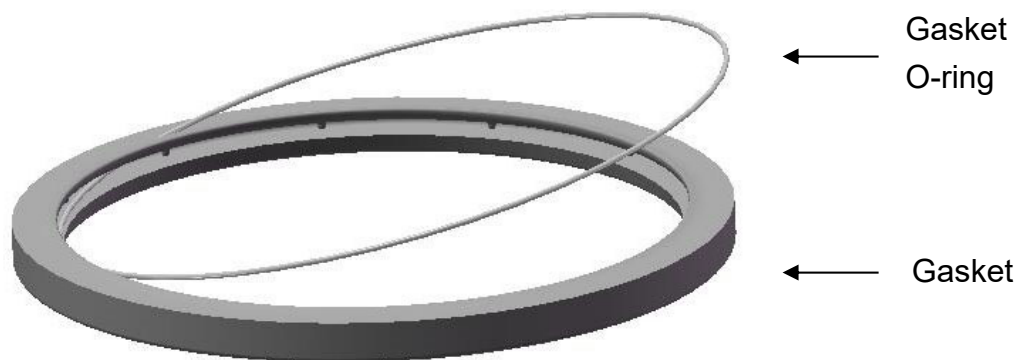

Figure 49
1. Remove the old gasket from the door, and then puff off the gasket o-ring from the gasket. Install the gasket o-ring to the new gasket as Figure 49.